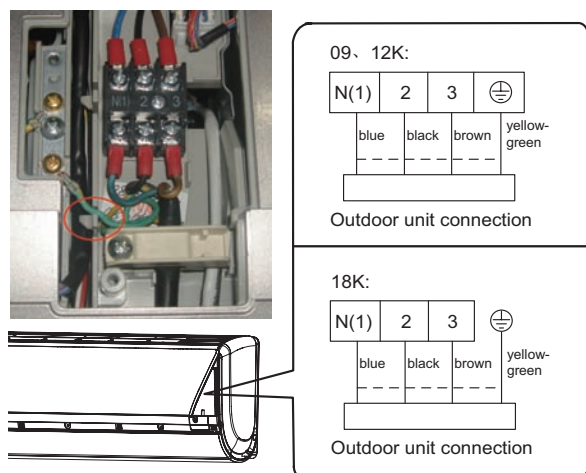

Fig.13
(3) Remove the wire clip; connect the power connection wire to the wiring terminal according to the color; tighten the screw and then fix the power connection wire with wire clip.After finishing wiring of 18K unit, clamp the grounding wire (yellow-green wire) into the wire-crossing groove(As show in Fig.13), in order to avoid pressing the wire when closing the electric box cover.(As show in Fig.13)